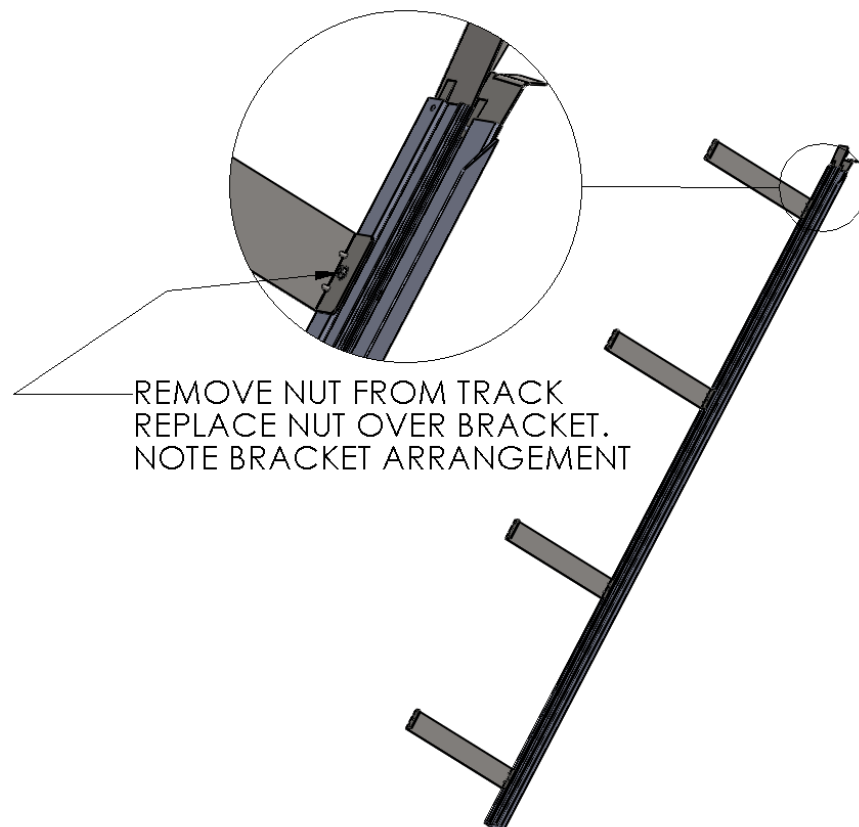

Figure 7 TRACK OFFSET BRACKET ARRANGEMENT
3. Locate the Track Projection Mount Brackets, four (4) per track. Using the hardware in the Track Assembly, attach these brackets so that they are oriented vertically, i.e. so that they are parallel to the Track (NOT horizontally oriented). (Figure 7 TRACK OFFSET BRACKET ARRANGEMENT)